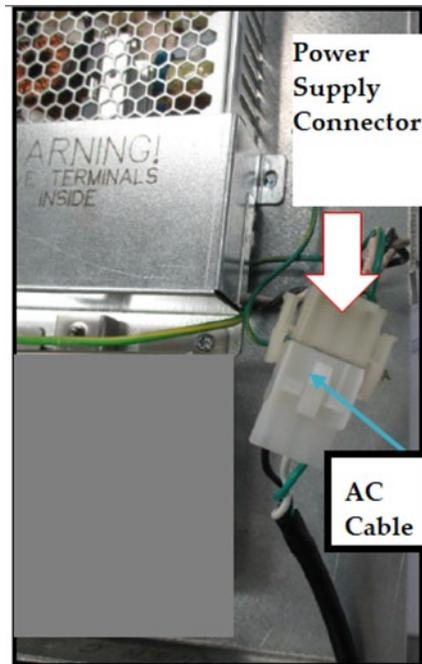

Figure 218
29) Disconnect the AC power cable that is attached to the power supply connector without the Invenco Link attached. See Figure 218 below.